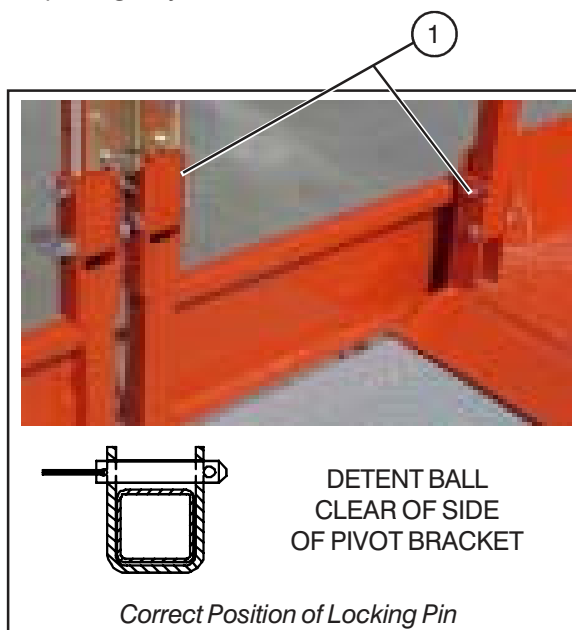

Figure 2-9. Fold-Down Guardrail System
- Guardrail Locking Pin with Lanyard** - To fold the guardrail system down, remove the locking pin at each pivot point and lower each guardrail. To raise the guardrail system, swing up each guardrail and lock in place with the locking pins ensuring that the detent ball of each pin is all the way through and clear of the side of the pivot brackets (Figure 2-9).